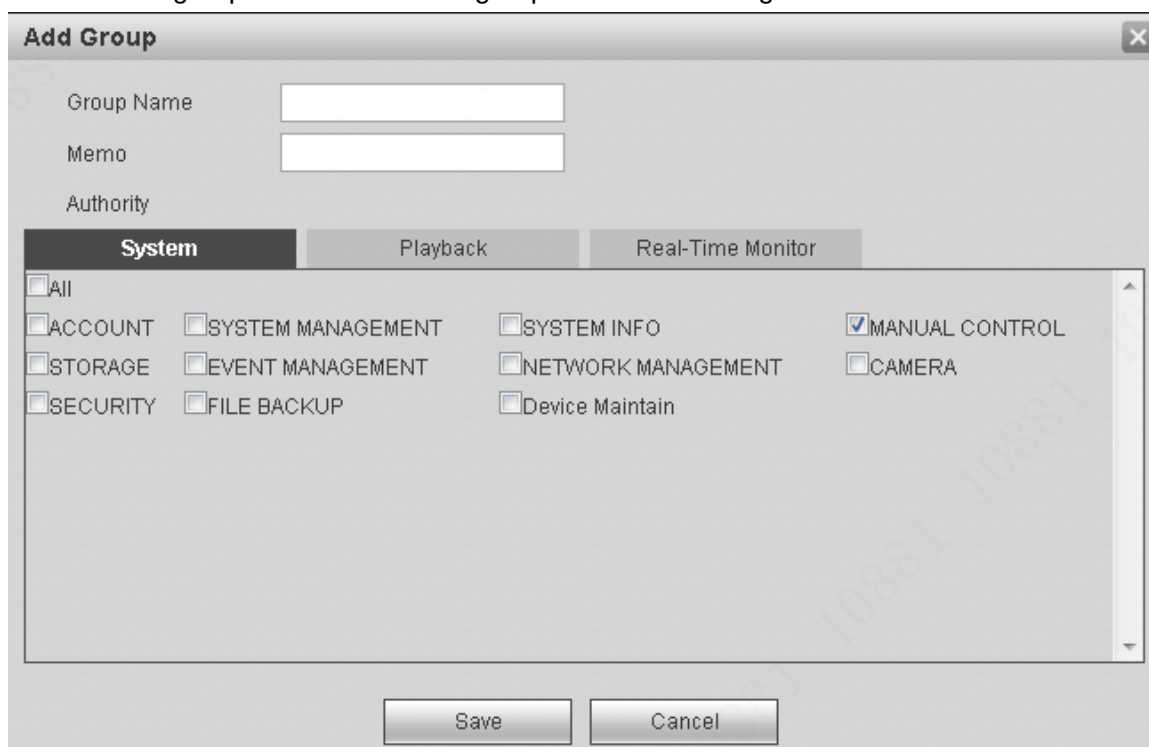

Figure 5-90
Step 1 Click Add group button. Enter add group interface. See Figure 5-90.